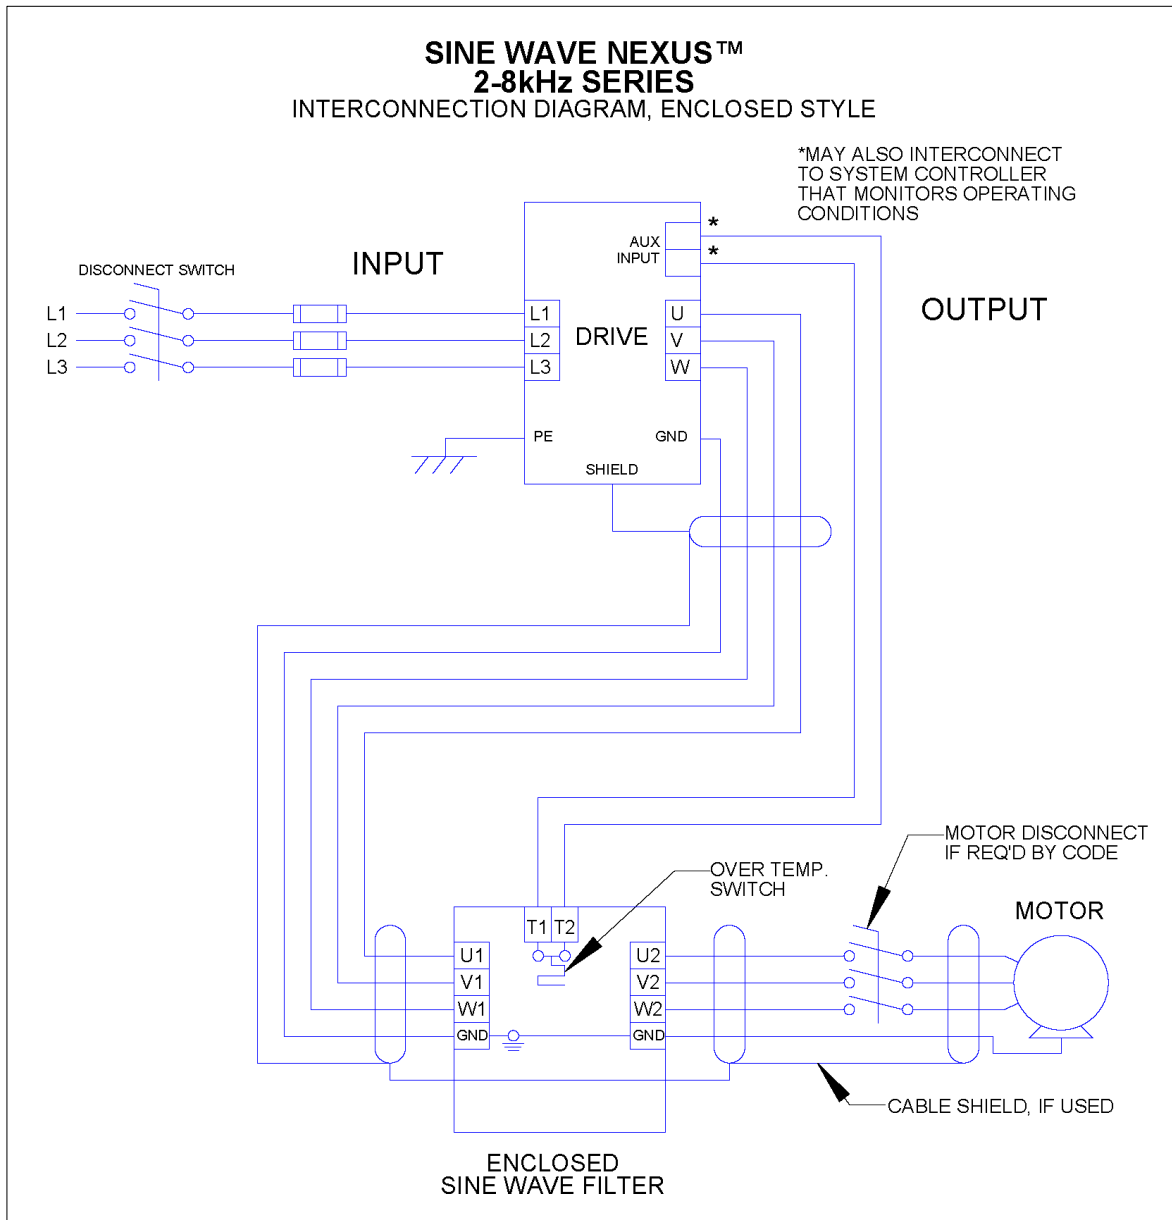

Figure 5-2: Enclosed Interconnection
- For filters supplied in general purpose NEMA 1/2 & NEMA 3R cabinets, interconnection between the filter, its power source, the motor, and the drive is shown in Figure 5-2: Enclosed Interconnection (p25).